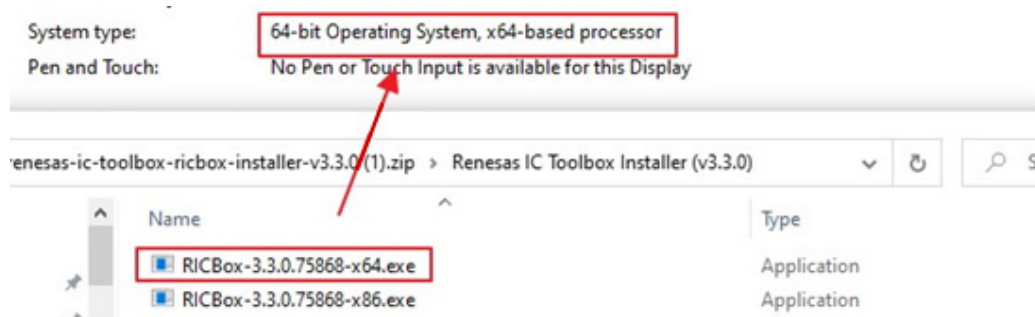

Figure 1. RICBox Installation Files
- Figure 1. RICBox Installation Files 4